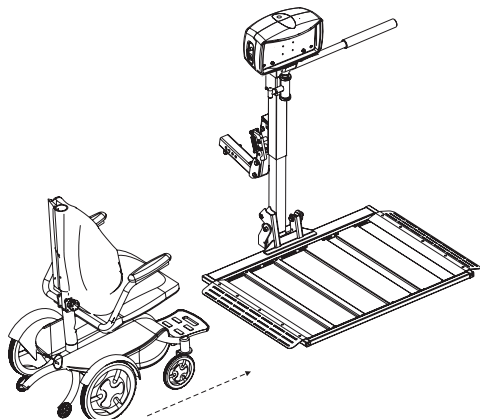

Figure 6-10
1. Position the chair onto the platform after the cradles have been adjusted. *See Figure 6-10.*